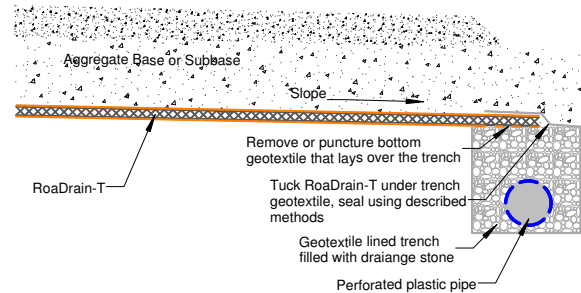

Figure 1: Typical Edge Drain Detail
1.1. The engineer shall verify that the surface of the area to receive the Roadrain-T is smooth and well compacted, with no voids or humps, and has the proper design grade that slopes towards the edge drain or other water collection structure as shown in figure 1. If no edge drain or water collection structure is present, one must be added.
2.2. The engineer shall verify that the surface of the existing pavement is properly prepared and sloped in the direction toward the edge drain or other water collection structure as shown in figure 1. If no edge drain or water collection structure is present, one must be added.
5. RoaDrain-T can be made to fit any width or length by cutting the material. Long cuts are best made with a contractors saw employing an abrasive (non-toothed) blade. Short cuts can be made with a sharp serrated blade utility knife. Cutting exposes the core edge. All exposed core edges (except the edge connected to the edgedrain, see figure 1) shall be wrapped with a strip of geotextile and secured utilizing methods described above.